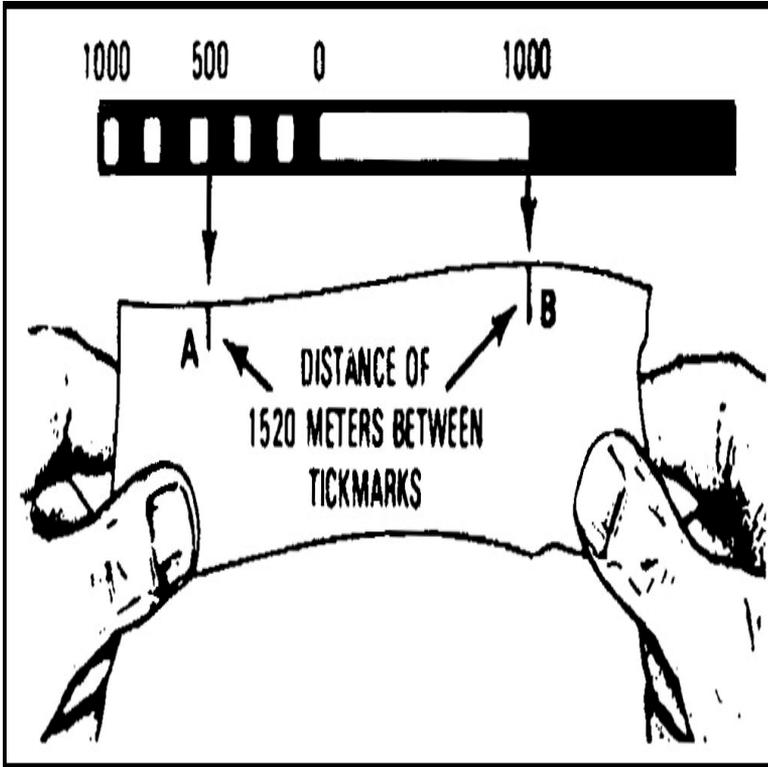

Figure 071-COM-1008-2. Distance between Beginning and Ending Points.
d. Align the marks on the paper with the appropriate bar scale (Figure 071-COM-1008-2).